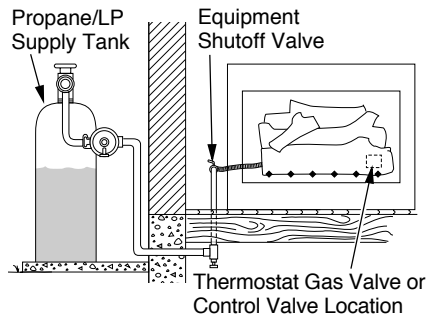

Figure 18 - Checking Gas Joints (Propane/LP Gas Models)
3. Check all joints from gas meter to equipment shutoff valve for natural gas or propane/LP supply to equipment shutoff valve for propane/LP (see Figures 18 and 19). Apply noncorrosive leak detection fluid to all joints. Bubbles forming show a leak.
4. Check all joints from equipment shutoff valve to thermostat gas valve (Thermostat-Controlled Models), to control valve (Manually-Controlled Models), or to gas control (Remote-Ready Models) (see Figures 18 and 19). Apply noncorrosive leak detection fluid to all joints. Bubbles forming show a leak.